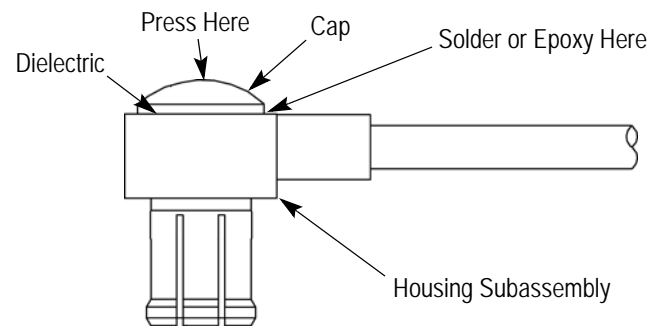

Figure 4
3.3. Sealing Opening in Housing (Figure 4)